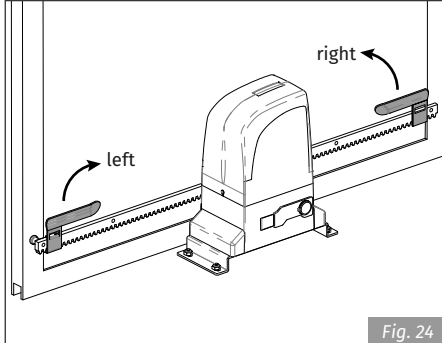

Fig. 24
- 4 • The limit switch plates should be installed as in Fig. 24.